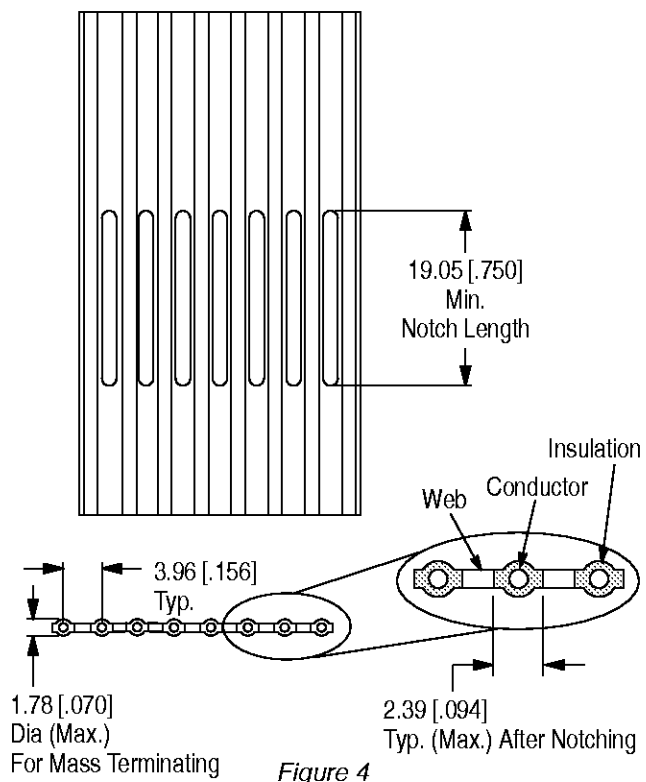
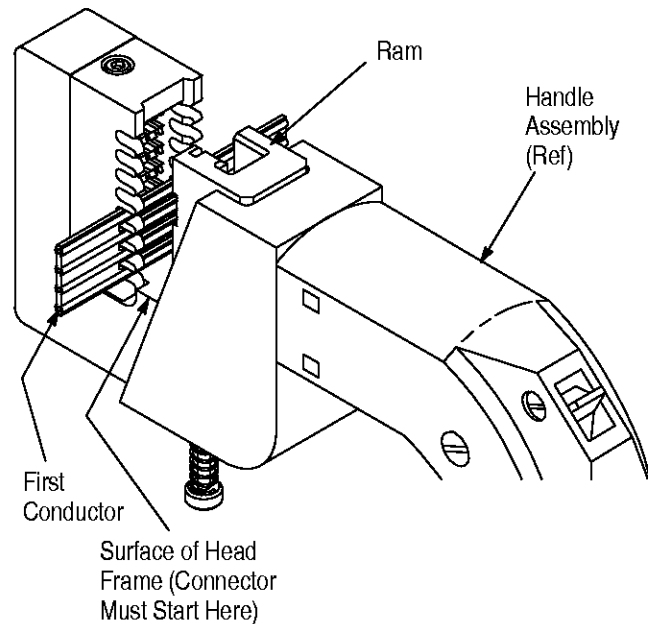

Figure 4
Figure 6
1. Position the pre-notched ribbon cable so that the first conductor goes into the wire guide slot closest to the head frame. See Figure 6. (See Figure 4 for ribbon cable limits and minimum notch length.)
3. Using a screwdriver (or equivalent), push the connector into the ram until the connector touches the surface of the frame. Refer to Figure 6.